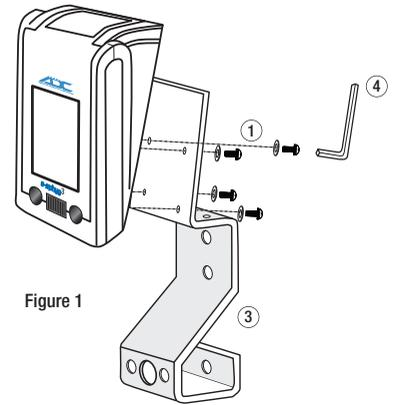

Figure 1
1. With base on its side connect upright outer pole to base using the long 6 mm hex screw and washer. Tighten with the large hex key provided. Tighten hardware as securely as possible. (To prevent loosening, periodically check that hardware remains securely tightened.) Reposition base upright. (Figure 1)
1. Attach e-sphyg³ to wall bracket by aligning the holes on the back of the unit with the four holes on the mounting bracket as shown. Insert the four hex mounting screws with washers through the back of the mounting bracket into the e-sphyg³ and tighten. (Figure 1)
1. Align the holes on the rear side of the e-sphyg³ with the four holes on the mounting bracket as shown. Insert the four hex mounting screws and washers through the back of the mounting bracket into the unit and tighten. (Figure 1)